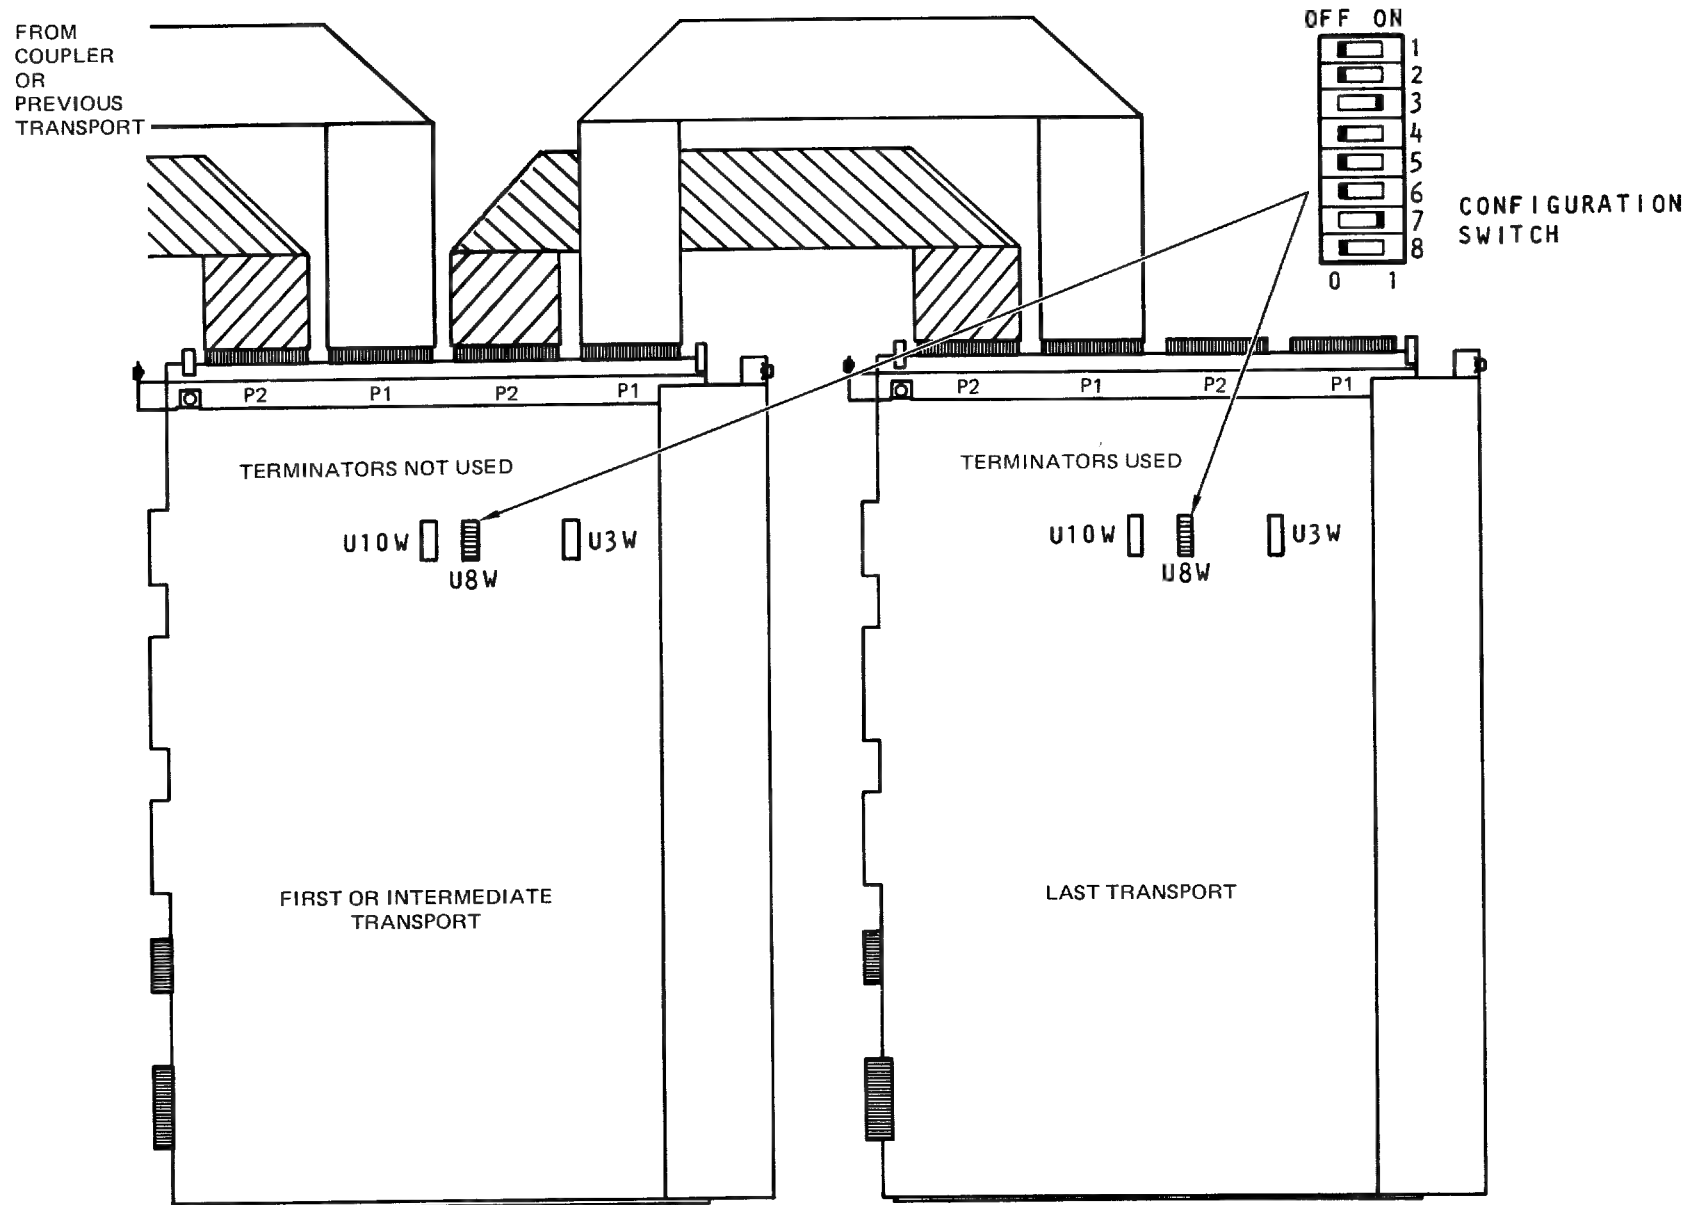

Figure 1-4. Daisy Chain Cable Configuration
- b. Remove terminator resistor pack U3W and U10W (Figure 1-4) from each transport except last unit.
- c. Install interconnection cables as shown in Figure 1-4.